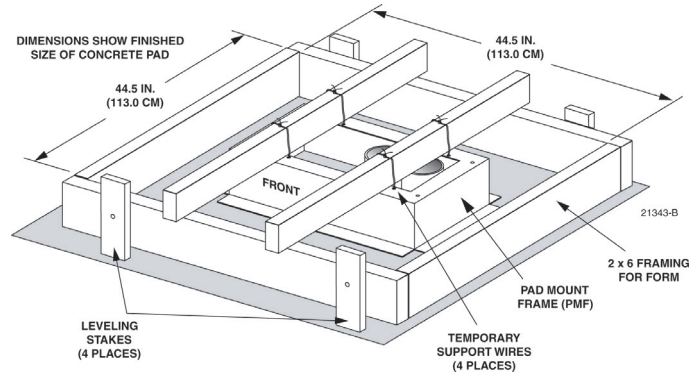

Figure 19. Concrete Pad Framing
1. Build a wood form for the concrete pad using 2 x 6 framing lumber as shown in Figure 19.
Note: Use temporary top framing to keep the top surface of the PMF flush and level with the top of the concrete pad (see Figure 19).